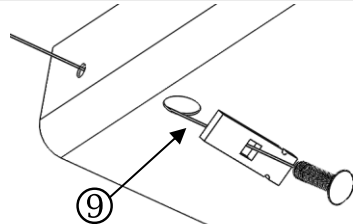
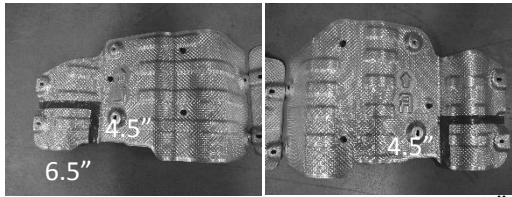

Figure 2
Figure 3
2. Lower exhaust – using a 12mm socket, remove (2) nuts that secure the exhaust hangers on each side of the vehicle. Using exhaust removal pliers, lower the muffler by removing the (2) forward exhaust hangers in front of the rear axle. Note: be sure to secure the exhaust before lowering.
3. Remove the heat shields using a 10mm socket remove (6) screws from each heat shield. Set aside for later reinstallation. Using a screwdriver, remove the center fascia support on the bumper. If interference occurs, use pliers to bend the metal fascia support out of the way.
4. Install support brackets – remove the foam tape from the side of the frame and the plug from the access holes on the bottom of the vehicle frame. If needed, remove the caulking from the frame. Insert the coiled end of the pullwire into the mounting hole and out the access hole. Insert the wire through the block (item 5) and attach the 7/16 bolt (item 1), see figure 2. Pull the wire and align the bolt with the mounting hole. Raise the support bracket into position and attach the bracket using (3) M10x1.25x40mm bolts (item 3) and (3) conical tooth washers (item 2). Repeat the process for the bracket on the other side of the vehicle.
5. Raise hitch into position – attach using item 6, 7, and 8.
7. Trim heat shield according to figure 3